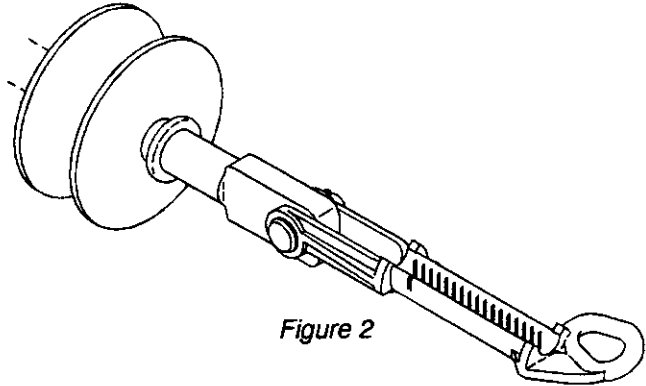

Figure 2
2. Attach the deadend body to the insulator or termination point with the clevis pin and cotter pin. See Figure 2.